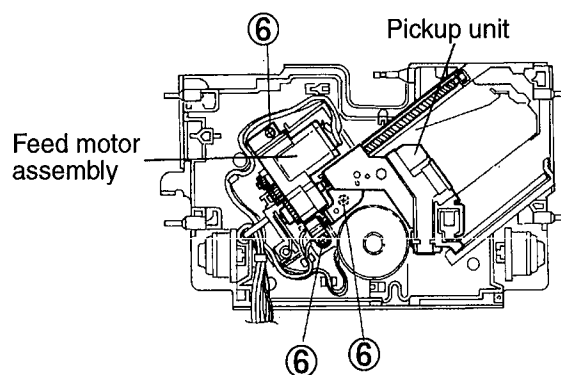

Fig.19
6. Remove the three screws ⑥ retaining the feed motor assembly and take out this motor assembly (See Fig.19).